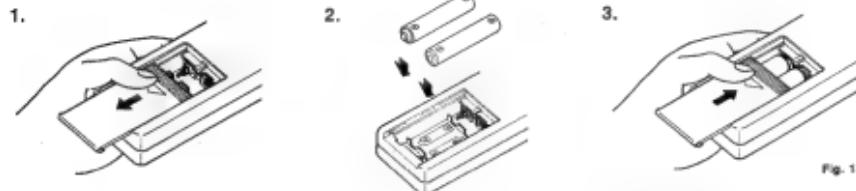

Fig. 13
- **How to install the batteries (Fig. 13)**